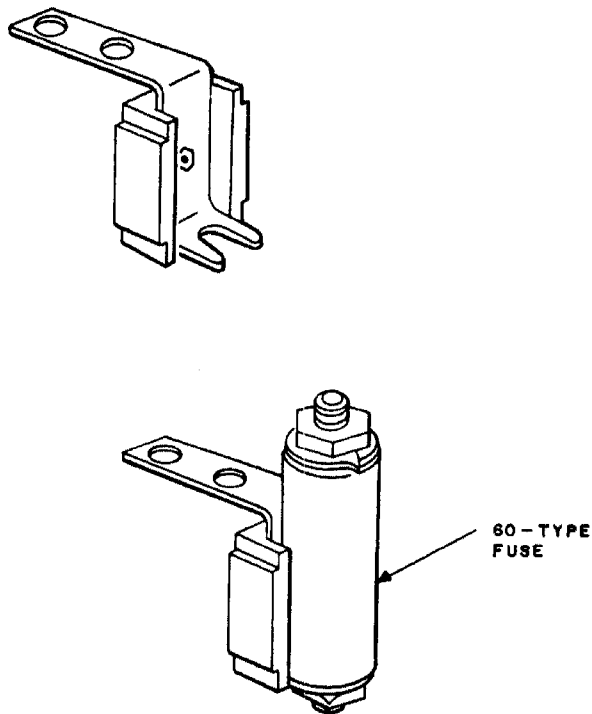

Fig. 23—14A Fuse Holder
7.07 When sneak current (60-type fuses) protection is required for pairs terminated on 1A4A-, 116-, or 117-type protectors, 14A Fuse Holders are required. Fig. 23 illustrates the 14A Fuse Holder.